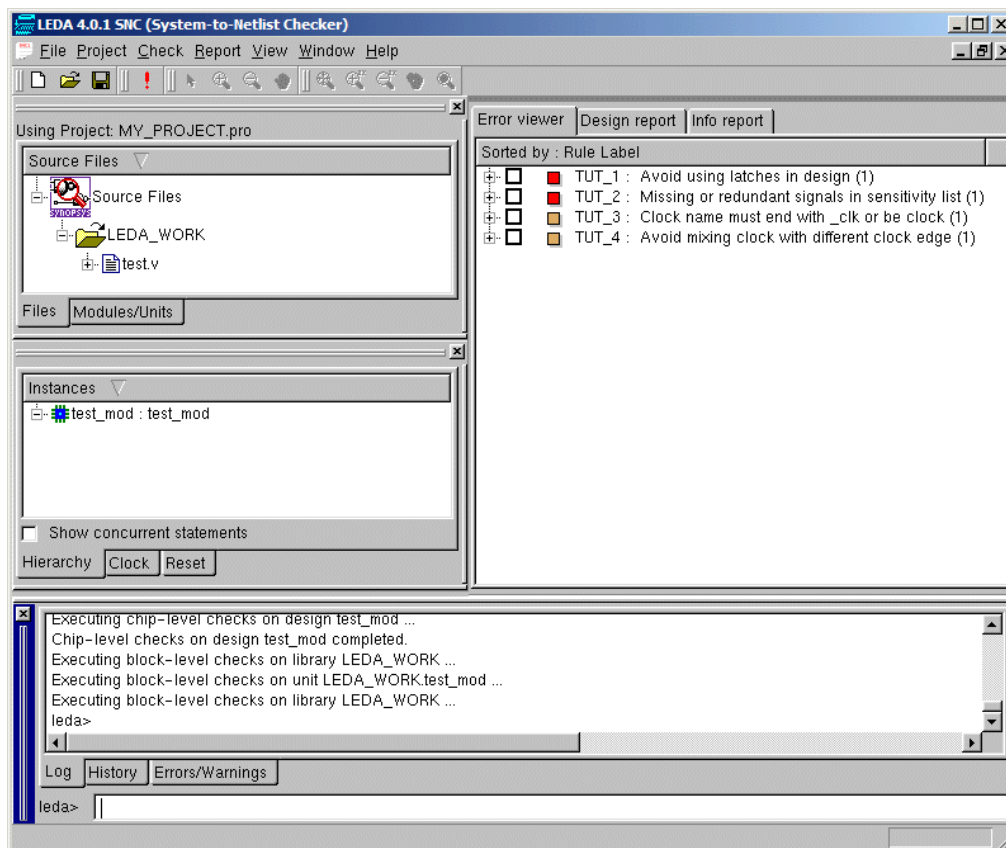

Figure 8: Checker Results for Custom Rules
5. From the Specifier main menu, choose **Check > Execute**. This time we see our same test file (test.v) listed in the Files tab on the left, but in the Error Viewer we see just four messages. They are the messages generated because the test file we wrote violates all four rules that we specified in the MY_TUTOR policy (see Figure 8).